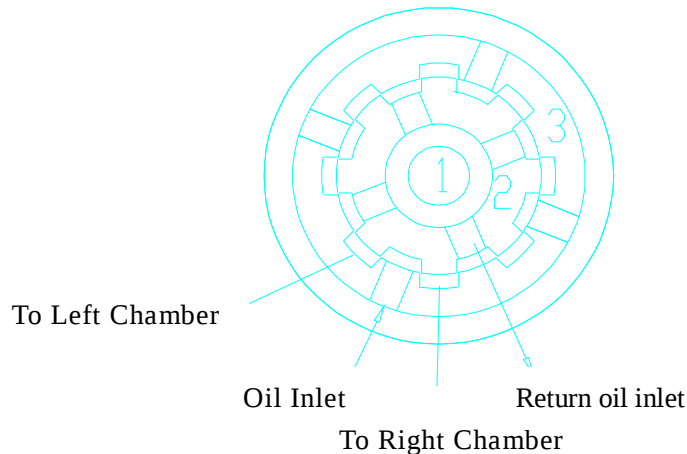

Figure 2
- The control valve is a normally open rotary valve and consisted of: torsion bar1, input shaft 2, valve bush 3 and other components. The hydraulic oil flows into the left and right oil chambers of Power Steering Gear by the opened clearance of the input shaft 2 and the valve bush 3. The structure is shown as figure 2.